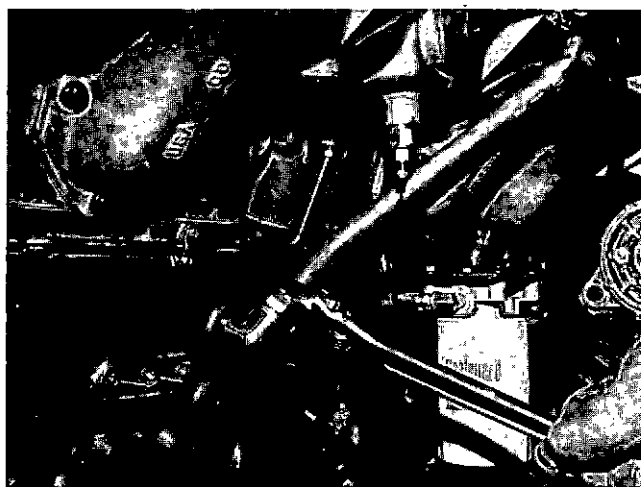

Fig. 14-1-103, V414184. Install turbocharger drain line
6. Install oil drain line from large boss at bottom of turbocharger to side of block. Fig. 14-1-103.